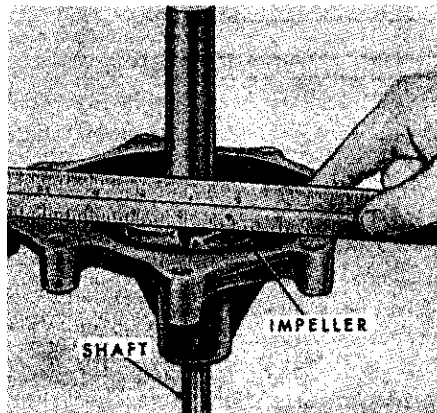
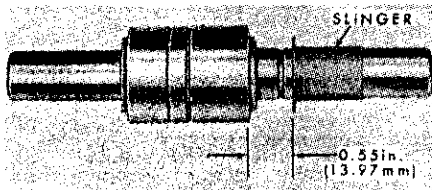
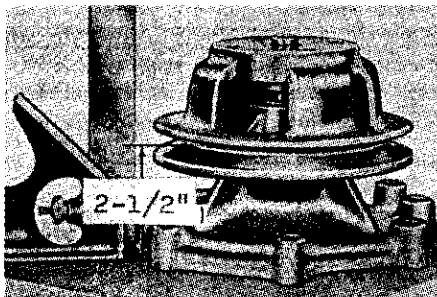

Fig. 158—Press impeller onto shaft with 3/4-inch I.D. pipe so that impeller is flush with rear of housing as shown.
Fig. 157—Flange of water slinger should be 0.55 inch from edge of outer bearing race as shown above.
Fig. 159—Press pulley onto shaft so that distance from center of belt groove in pulley is 2 1/2 inches from rear face of housing.
Using a length of 1 5/16 inch I.D. pipe, press new seal into housing. Check to see that flange on water slinger (4) is located 0.55 from edge of bearing race as shown in Fig. 157, then press shaft into front of housing until outer bearing race is flush with front end of housing. Using a length of 3/4-inch I.D. pipe, press impeller onto shaft as shown in Fig. 158 so that impeller is flush with rear end of housing. Press pulley onto shaft so that center of belt groove in pulley is 2 1/2 inches from rear face of housing as shown in Fig. 159. Install rear cover with new gasket and tighten retaining cap screws to a torque of 18-22 Ft.-Lbs.